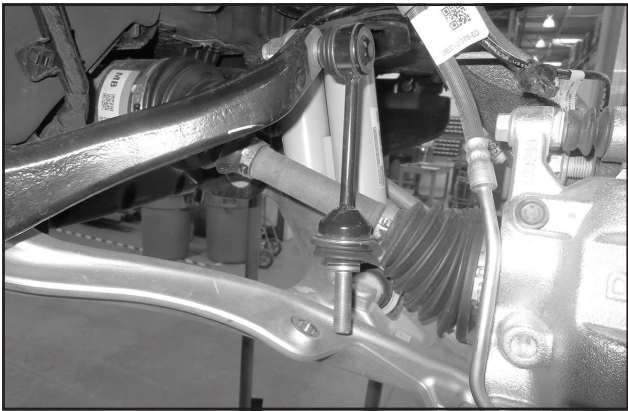

FIGURE 3 - STEP 4
4. Disconnect the factory sway bar link from the lower control arm. Save Hardware. **NOTE:** Disconnect from the opposite side so the sway bar can move. **(FIGURE 3).**